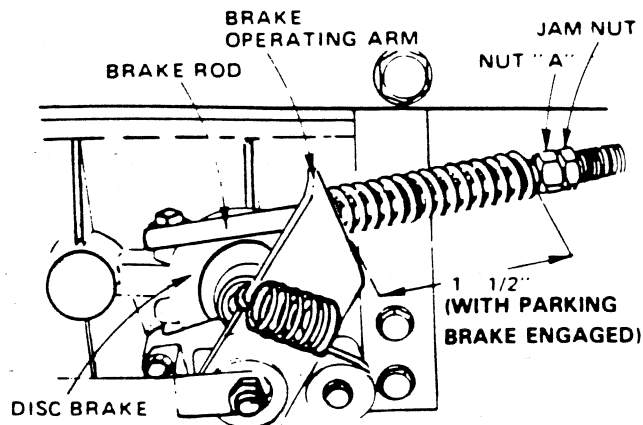

FIGURE 16
This tractor is equipped with an adjustable disc brake mounted on the right side of the transaxle (Fig. 16).
- c. If distance is other than 1-1/2", loosen Jam Nut (Fig. 16) and turn Nut "A" until distance becomes 1-1/2". Retighten Jam Nut against Nut "A".